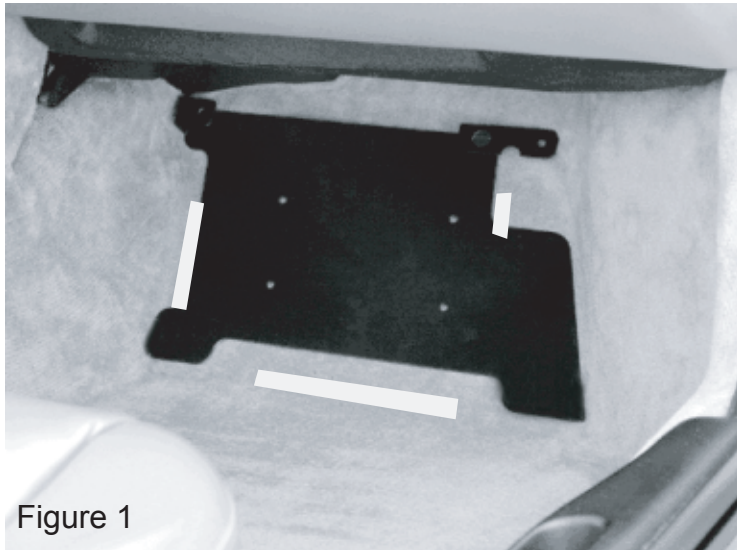

Figure 1
4. Place mounting plate into car to determine installation location. Once you are satisfied with its location, place tape around the perimeter so that you can relocate the mounting plate during final installation. (See Figure 1)
5. Remove clear protective coating from Velcro and mount backer plate into original location that is defined by tape. (See Figure 1)